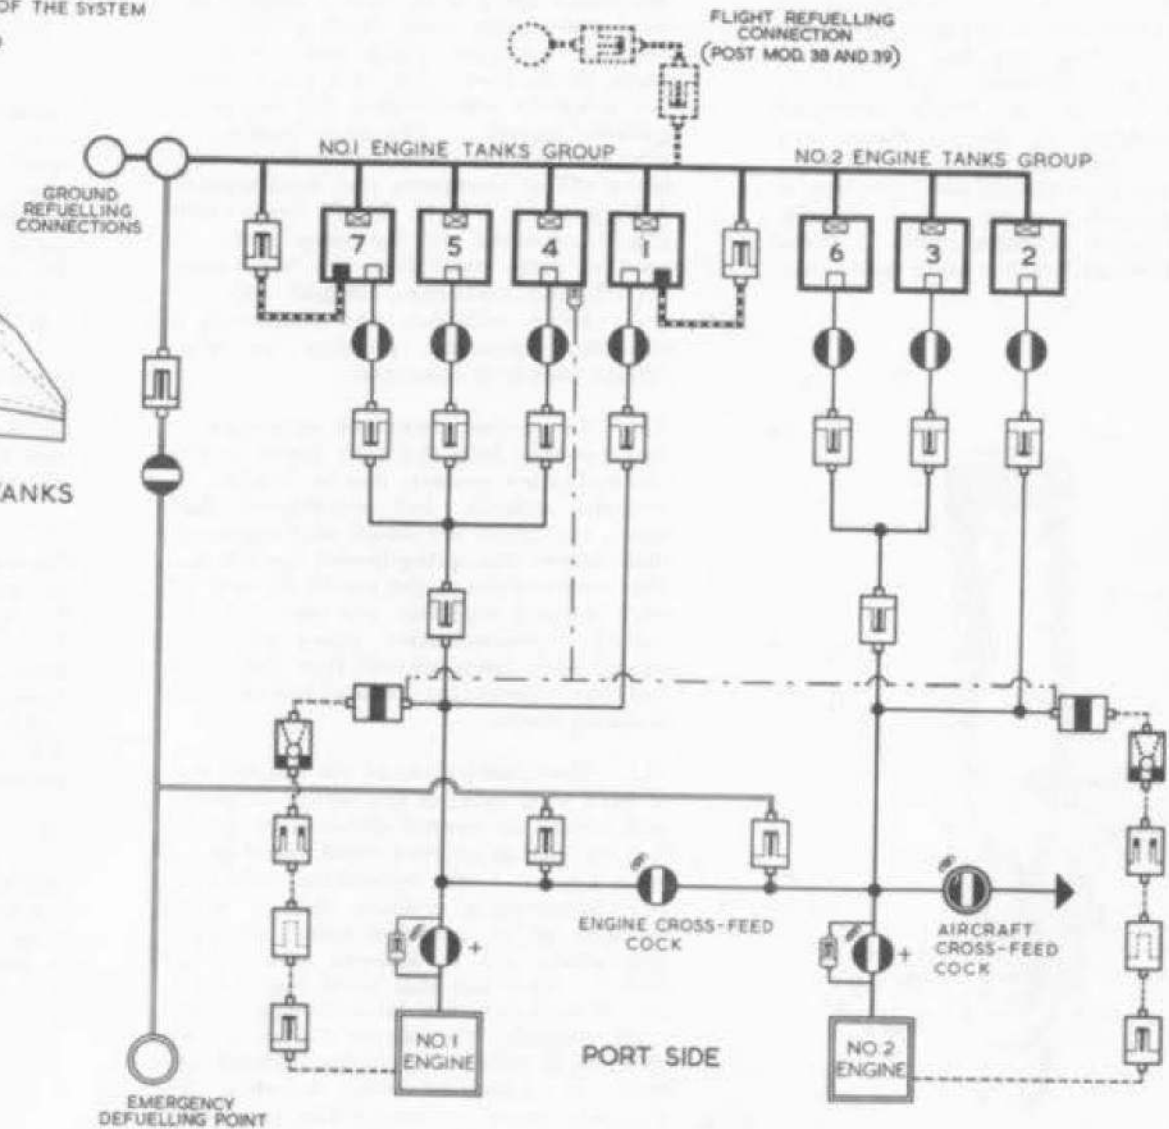

Fig. 2. Fuel system diagram.
2. Fuel is carried in fourteen tanks, five being in the port and five in the starboard main plane, with the remaining four tanks in the fuselage above and aft of the nose-wheel bay. The arrangement of the tanks is shown on fig.2.